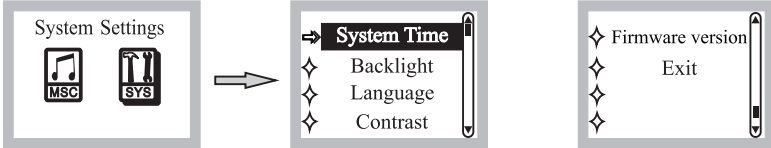

Fig. 17
- (2) System Settings Mode: Press PRV/TEN ◀◀ or the NEXT/TEN ▶▶ to change functions, press PLAY/PAUSE ▶❏ to confirm and enter system settings, Fig. 17.